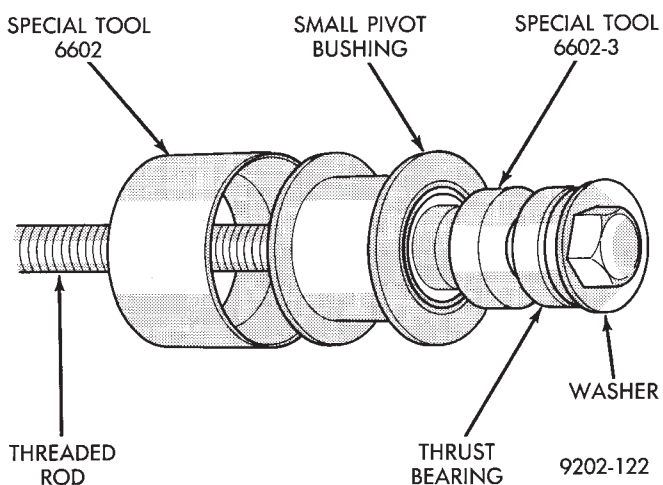

Fig. 7 Bushing Installing Tools Assembled
(1) Remove the special tools from the lower control arm that were used for the removal of the small pivot bushing.
(2) On the threaded rod from Remover/Installer, Special Tool 6602 assemble the following pieces. Washer, thrust bearing, small bushing disc Special Tool 6602-3, small lower control arm pivot bushing and small bushing sizer, Special Tool 6602 (Fig. 7).